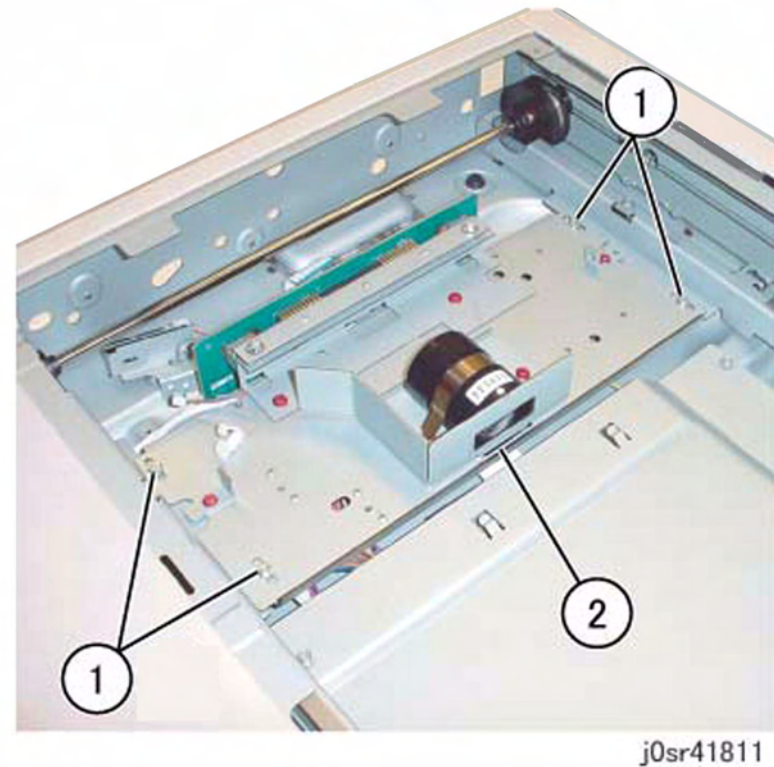

Figure 3 Removing the CCD Lens Assembly
5. Replace the CCD Lens Assembly (Figure 3).